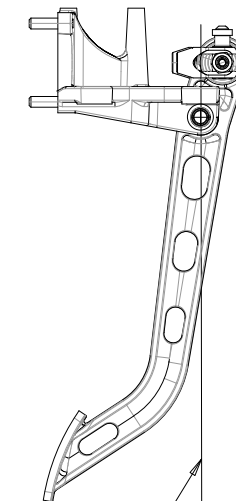

FIGURE 3:
- Adjust the push-rod thread engagement until the position of each pedal is correct for the driver. Note that setting the pedal position such that firm pedal occurs beyond the lowest point of its stroke "downswing" is not advised. This will reduce the mechanical advantage of the pedal and affect pedal feel. Refer to Figure 3 for clarification.